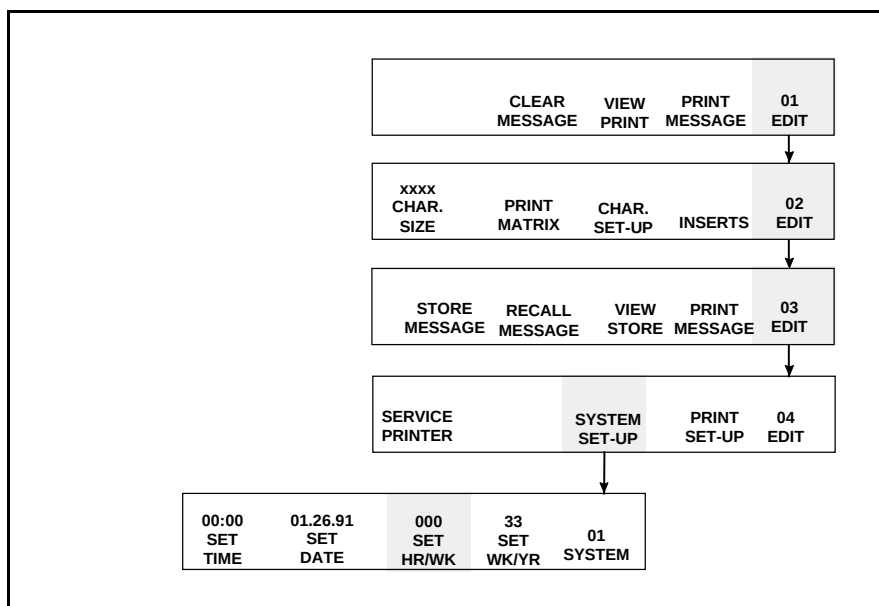

Figure 7-7. Accessing Frame <01 SYSTEM>
The hour-of-the-week is set in Frame <01 SYSTEM>. Refer to Figure 7-7 below for directions to reach this frame.
1. Begin in Frame <01 SYSTEM>. Refer to Figure 7-7 on the previous page.